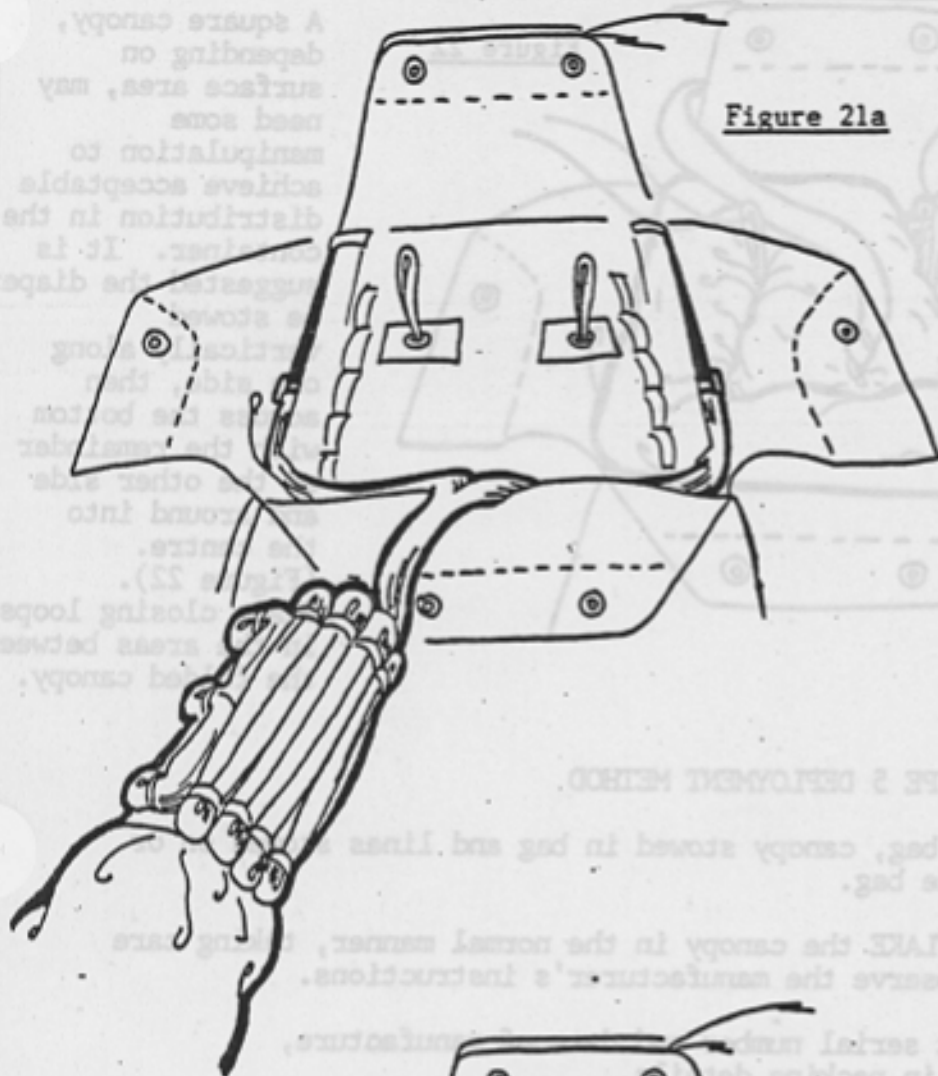

Figure 21a
6.5 TYPE 4 Full diaper, choker type with all lines stowed on the diaper parallel to the radial (longitudinal) seam. Figure 21a and 21b (round parachute) and 22 (square parachute with diaper).
Lay the risers in the container tray as in Figure 21a so they are under the protector flaps.
Lines are stowed as a group on the diaper (Figure 21a). There is no need to use the line stowage loops on the reserve tray. Follow the canopy manufacturer's instructions for line stowage.